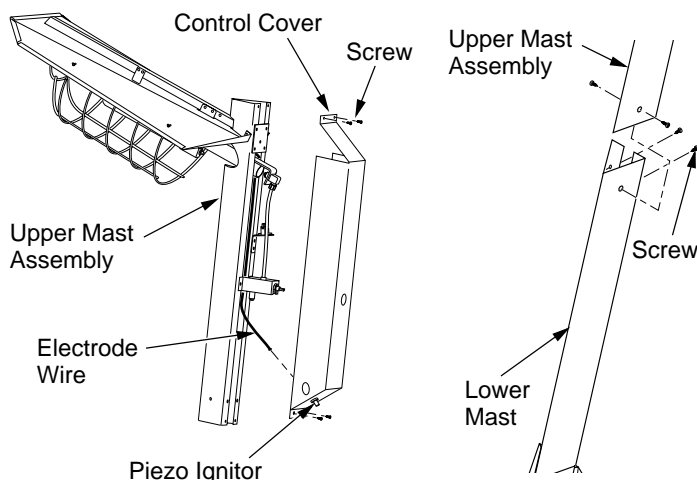

Figure 7 - Removing Control Cover
7. Remove 4 screws from control cover on back of upper mast assembly (see Figure 7). Carefully pull control cover from assembly and unplug electrode wire from piezo ignitor. The ignitor will stay assembled to the control cover.
16. Plug ignitor wire back into piezo ignitor and replace control cover (see Figure 7, page 5).